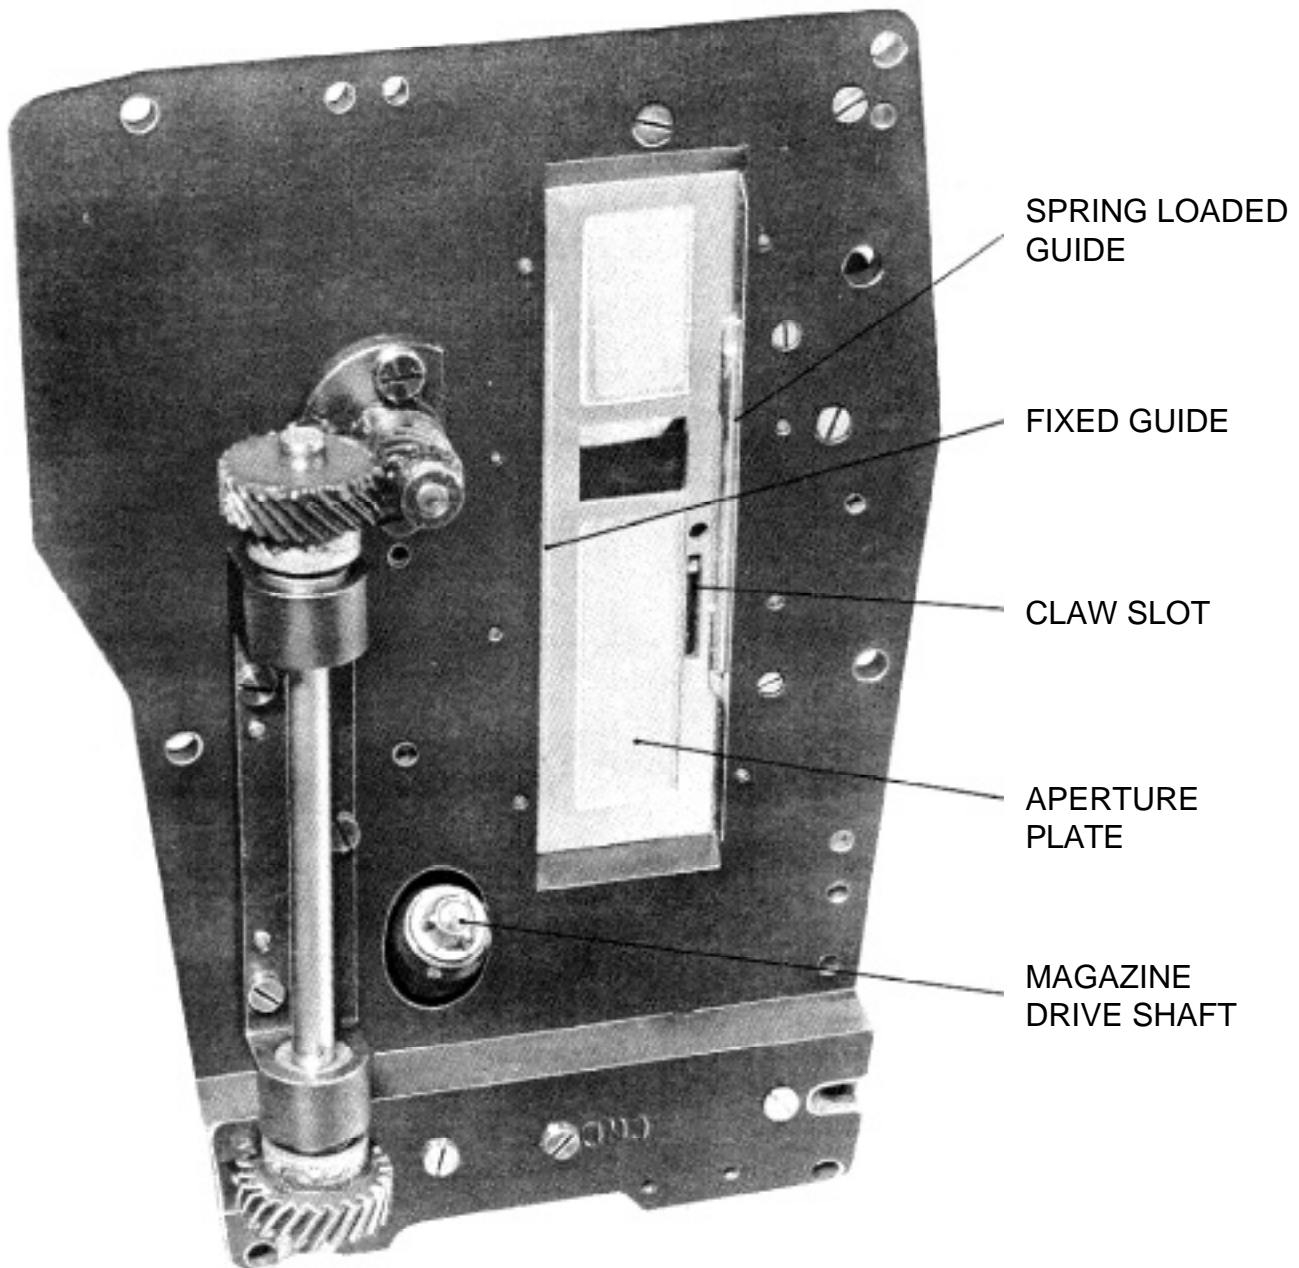

FIG. 3. APERTURE PLATE
**The aperture plate** (fig.3) is manufactured from stainless steel hard chromium plated. On the left hand edge there is a fixed guide which is the edge reference for the film. On the right hand side is a spring loaded guide which controls the lateral stability of the film. The two guides on the back cover, position the nose of the magazine on the mechanism plate.